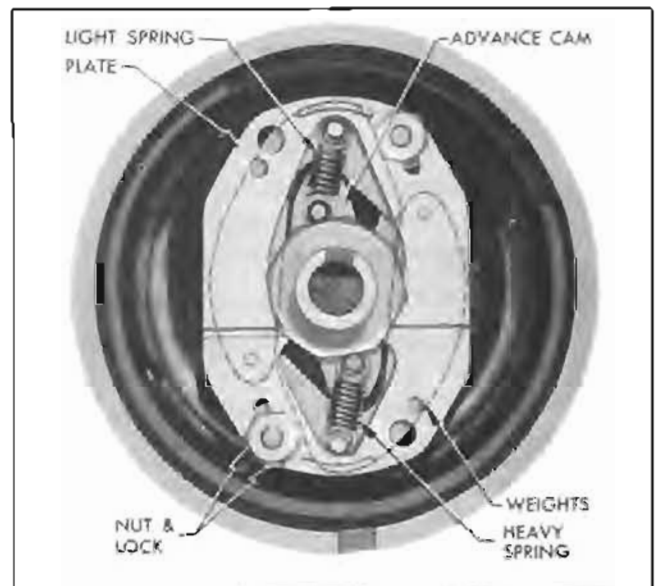

Figure 10-77—Installation of Advance Weights, Cam, Springs and Plate
4. Remove advance weight plate, springs and weights from the shaft plate. Remove advance cam from shaft. See figure 10-77.
2. Place plate over weights with ridged side down against weights. Install locks and nuts and bend tongue of locks up against nuts. See figure 10-77.